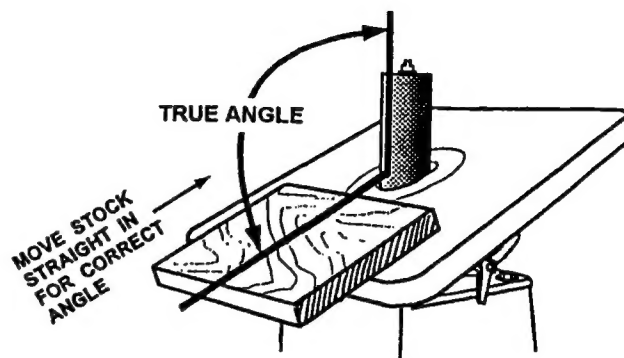

FIGURE 1
5. If the table is set at any angle other than 90 degrees the only area on the table surface where the set angle is actually achieved is the front center line of the table and the front of the spindle. To hold this angle, it is recommended that sanding be done only in this location (**Figure 1**).